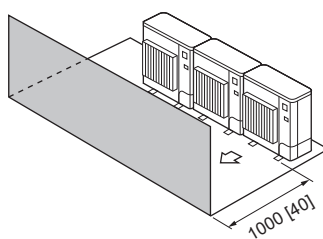

Fig. 2-14
- Obstacles at front only (Fig. 2-14)